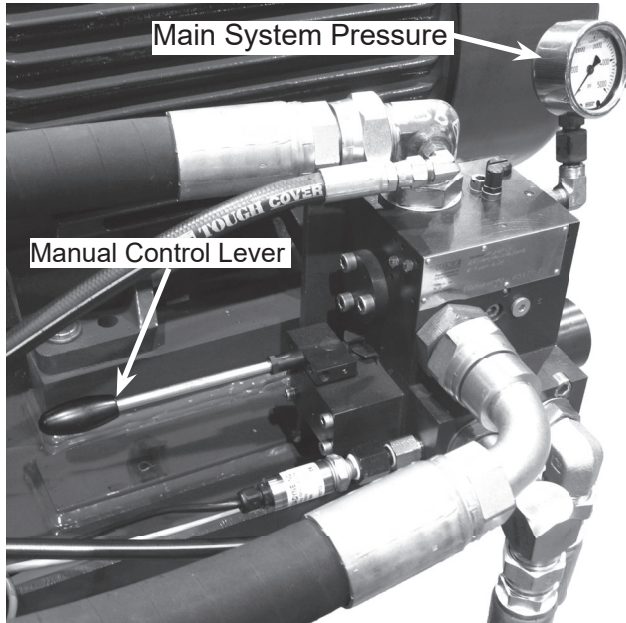

Figure 18 - Directional Valve
A directional control valve is for controlling the direction of the plunger (see Manual Operation Pg. 19). The main system pressure gauge is located on the directional control valve (see Figure 18). The manual control lever can also be used to relieve pressure in the plunger cylinder when the HPU is shut down.
3. Operate lever on directional valve to operate plunger (see Figure 18 - Pg. 16).